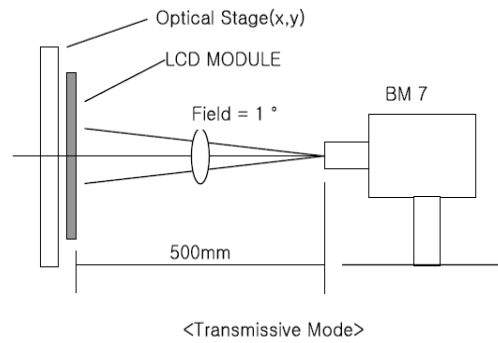

FIG. 1 Optical Characteristic Measurement Equipment and Method
- Surface luminance is the center point across the LCD surface 500mm from the surface with all pixels displaying white. For more information see FIG 1.